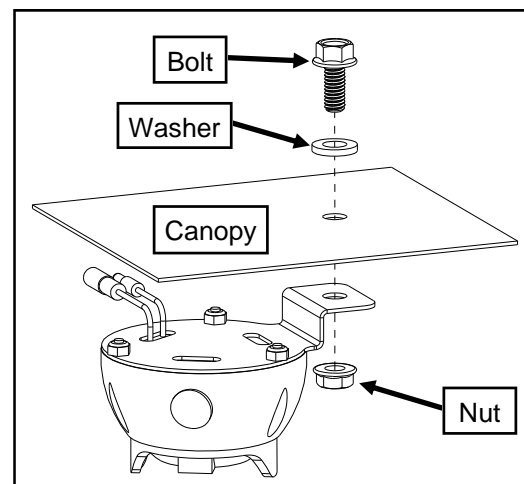

FIGURE 1.2
- If not installed on a Curtis cab or a location other than an existing roof bolt is desired, drill a 3/8" hole in the roof and mount with hardware as shown in figure 1.2.
4. If necessary use a 10-32 screw, nylon washer, P clamp and nut to secure the harness against the roof. Drill a 7/32" hole in the desired location and install the hardware in the same order as the dome light bracket as shown in figure 1.2.